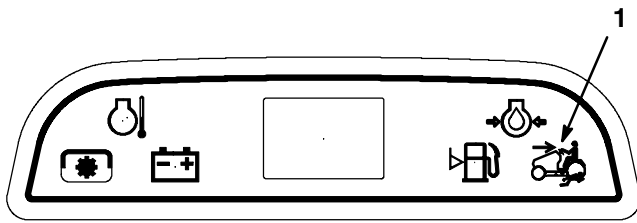

**Figure 7**
If you need to use the PTO while backing up, you can turn off this interlock feature using the KeyChoice switch located near the seat bracket (Fig. 7).
2. Insert the KeyChoice key into the switch (Fig. 7).